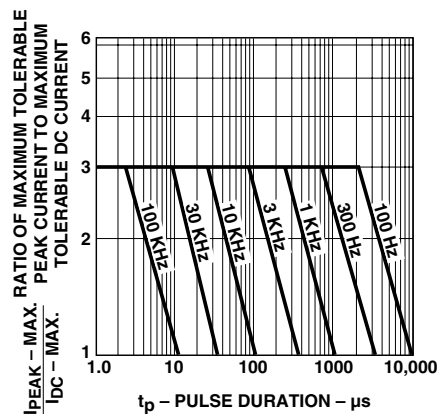

Figure 2. Maximum tolerable peak current vs. pulse duration.
- See Figure 2 to establish pulsed operating conditions.